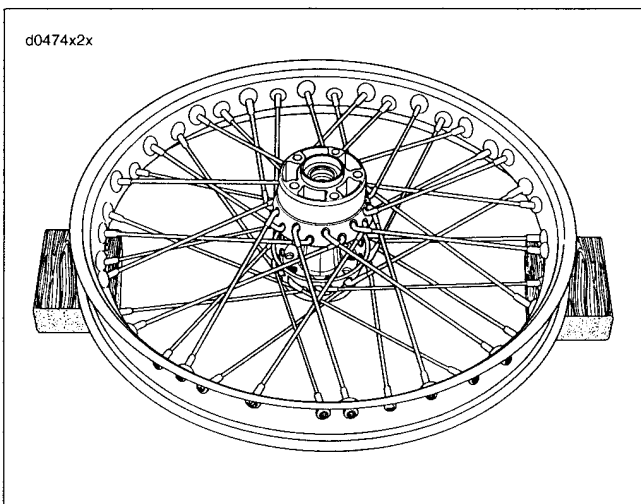

Figure 2-49.
9. See Figure 2-49. Insert any **upper** row spoke into hub and angle spoke counterclockwise into appropriate rim hole. Install remaining upper row spokes.